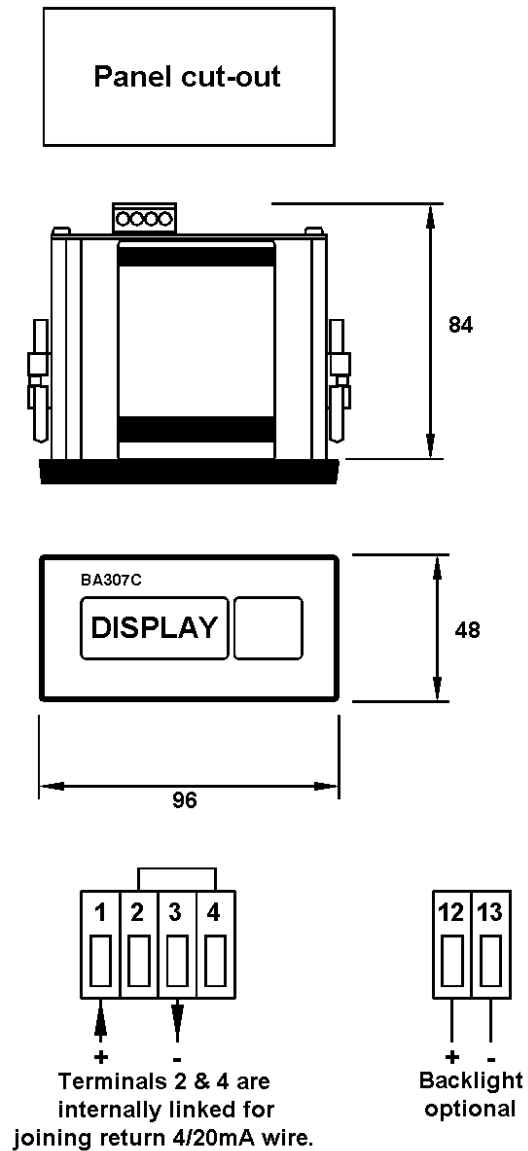

Fig 4A BA307C dimensions
Figs 4A and 4B show the overall dimensions of each instrument and the size of the required panel cut-out. To achieve an IP65 seal between the instrument enclosure and the instrument panel the smaller tolerance aperture should be used and the BA308C must be secured with four mounting clips.
- Connect the panel wiring to the rear terminal block(s) as shown in Figs 4A and 4B. To simplify installation, the terminals are removable so that the panel wiring can be completed before the instrument is installed.